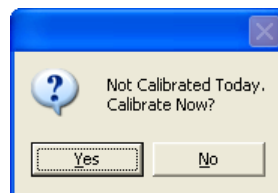

Figure 12-5
**Note:** *If calibration has not been performed, you will be prompted with the screen as shown in Figure 12-5. After the calibration is complete, the program will return to Figure 12-1 Time Activity Analysis screen.*